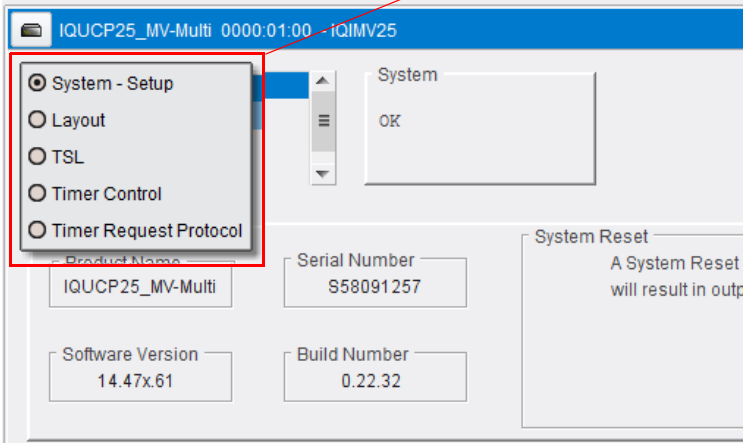

Fig. 4-63: List of Templates
- Right-click in the **Template Selection** box to display a list of templates (see Figure 4-63) and click on the template required.